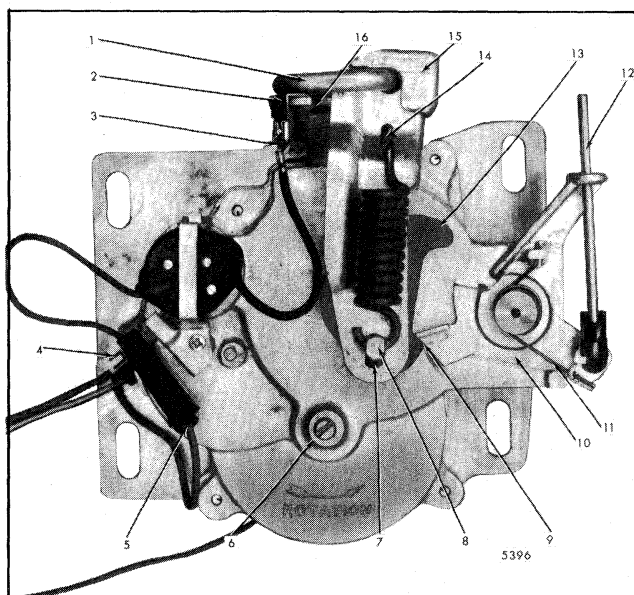

Fig. 7-32-Electric Closing Unit Front View
2. Insert flat-bladed screwdriver into slotted secondary gear output shaft to manually cycle unit (counterclockwise - direction of arrow) to full down (closed) position. Set output cam against lock release lever (anti-reversing stop) as shown in Figure 7-32.
3. Disconnect motor ground terminal from plunger grounding plate tab (Fig. 7-32).
9. Retain link on pivot pin with tight looped end of spring (Fig. 7-32).